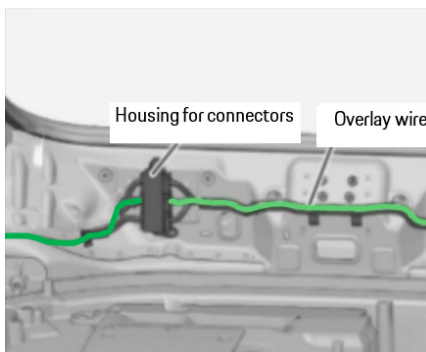

Figure 16. Goes to Rear
2.3.6 Rear crossover connection point (Figure 16 & 17)